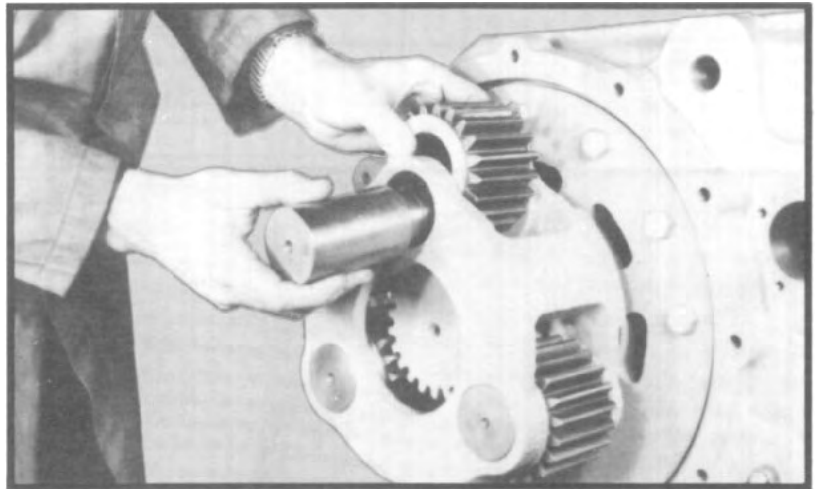

Fig. 154
- 3.20 Slide planet gear with needle bearings into planetary carrier, add planet pin spacers on each side of planet gear and slide planet pin through spacers and gear. Repeat procedure for remaining two planet gears. (See fig. 154.)